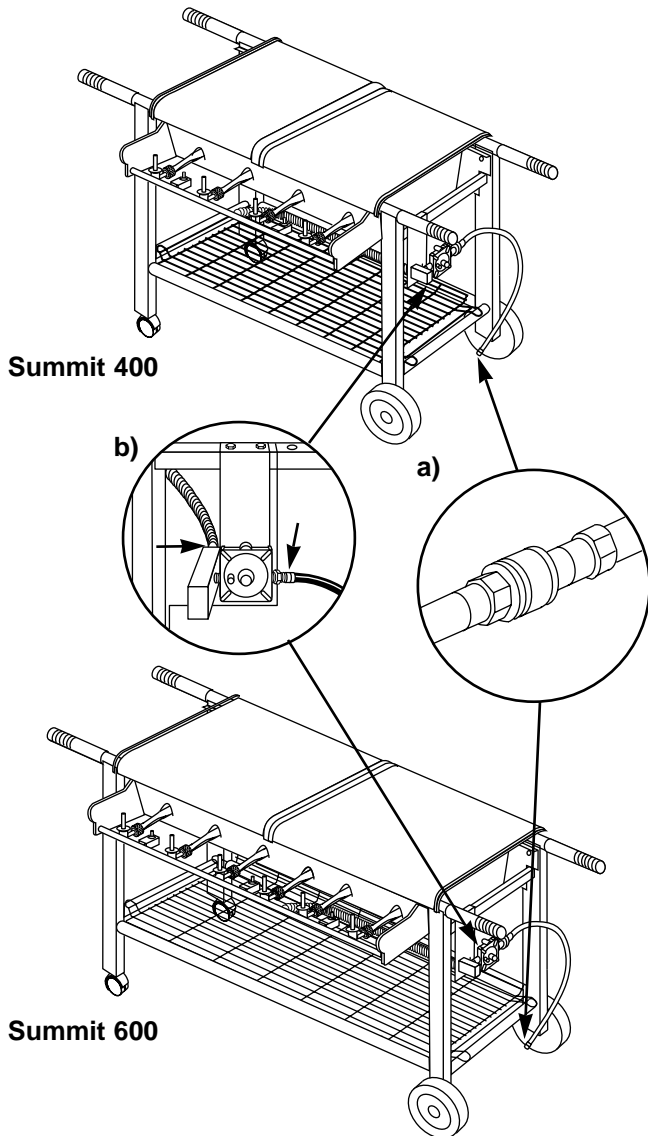

Figure 21
- a) Hose to quick disconnect connection. Figure 21 (a).
- b) Hose to regulator connection. Gasline to regulator fitting. Figure 21 (b).